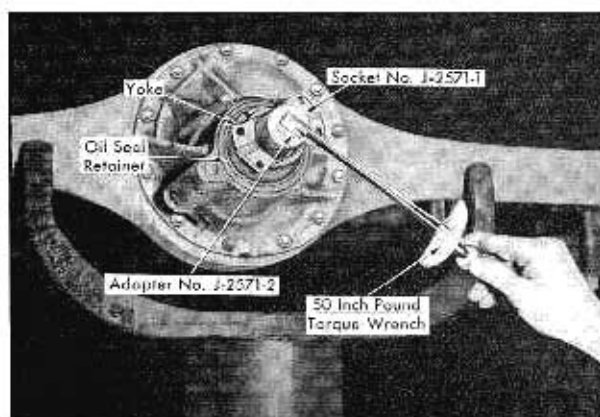

Fig. 8-4 Checking Preload Torque
4. Using a 50 inch pound torque wrench (KMO-654 or similar wrench) with Socket, Tool No. J-2571-1, and Adapter, Tool No. J-2571-2, measure the inch pounds torque required to rotate the pinion shaft slowly for at least 1/2 turn. Fig. 8-4. Repeat this torque check at least eight times, which will insure an accurate check over the entire circumference of the ring gear. Record all torque readings.